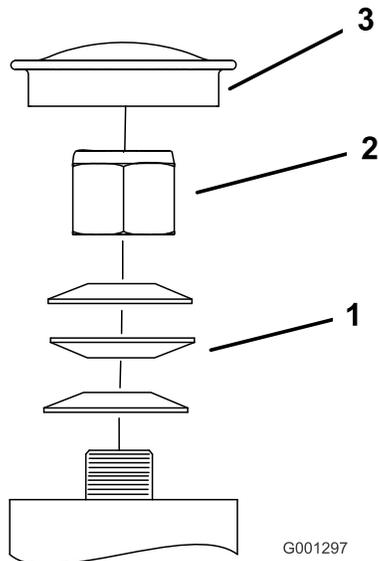
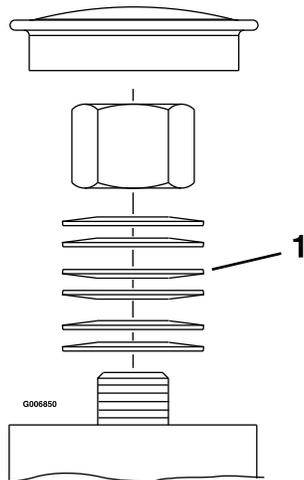

Figure 52
Figure 53
3. Remove the dust cap from the caster and tighten the locknut (Figure 52 and Figure 53).
- Tighten the locknut until the spring washers are flat and then back off 1/4 turn to properly set the pre-load on the bearings (Figure 52 and Figure 53).
Important: Make sure that the spring washers are installed correctly as shown in Figure 52 and Figure 53.